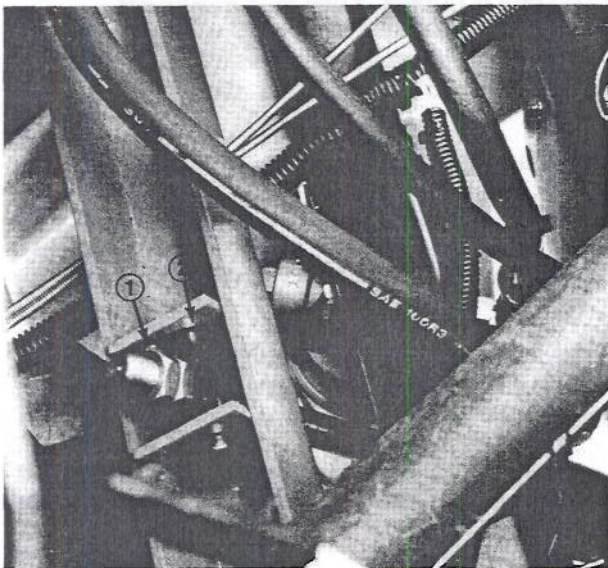

Figure 26
2. Measure distance between cylinder jam nuts and cylinder pivot pin (Fig. 26). Distance should be approximately 1/4".